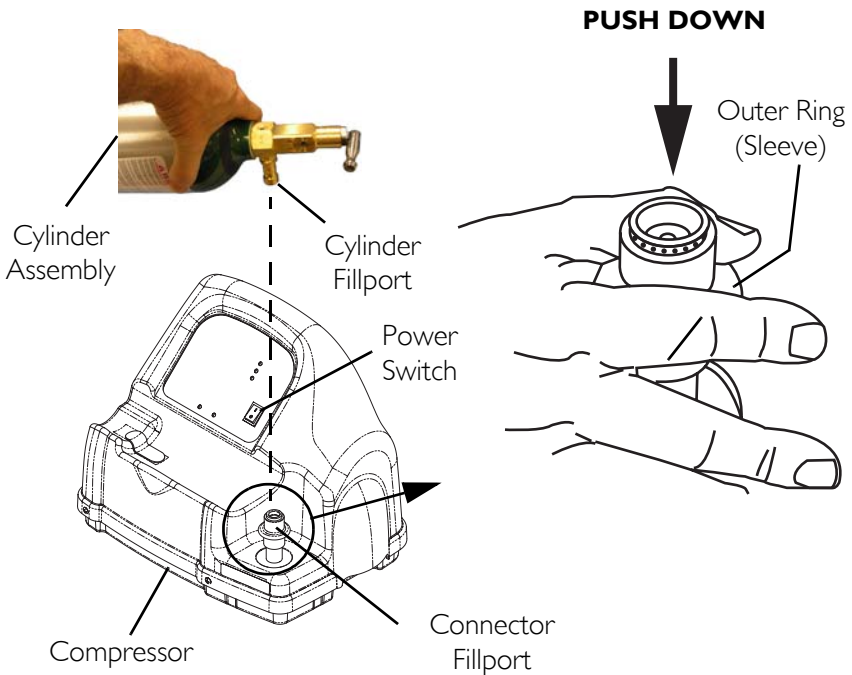

FIGURE 4.6 Disconnecting the Cylinder from the Compressor
11. After the cylinder is full, press the compressor power switch to the Off (O) position (FIGURE 4.6).
12. Grasp the cylinder assembly (FIGURE 4.6).
13. With the other hand, grasp the outer ring (sleeve) of the connector fillport and push DOWN (FIGURE 4.6).
14. Lift up on the cylinder assembly to remove from the connector fillport (FIGURE 4.6).
15. When the cylinder fillport is disconnected from the connector fillport, release the outer ring (sleeve) of the connector fillport (FIGURE 4.6).
16. Remove the cylinder from the compressor cradle (FIGURE 4.6).